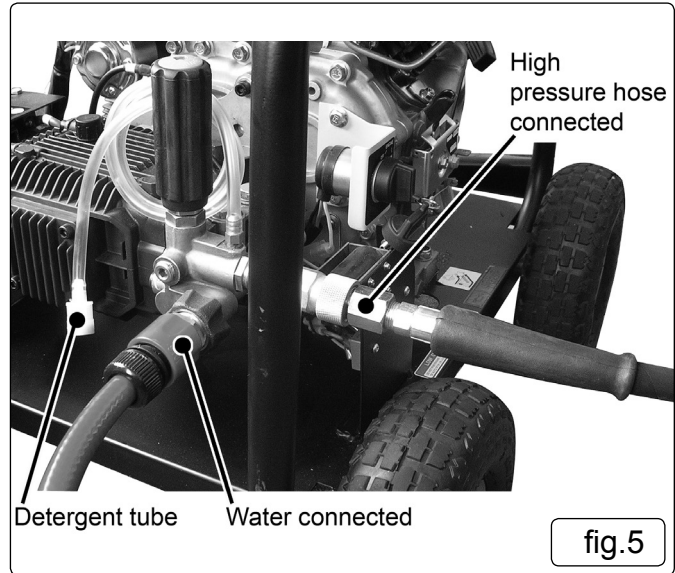

fig.5
- 4.1.8. Attach the other end of the high pressure hose to the pump outlet as shown in fig.5. Pull back the brass sleeve on the connection. Insert the hose and release the sleeve.
- 4.1.9. Connect the mains water supply hose to the pump inlet as shown in fig.5. **USE COLD WATER ONLY.**
- 4.2.2. On the top of the pump outlet is a brass siphon injection fitting. Push the detergent input pipe onto the fitting (fig.5) and place the filter on the other end into the container of detergent ensuring that it goes all the way to the bottom. When used with the low pressure black nozzle, detergent will be drawn from the container by siphonic action and will mix automatically with the water from the pump. Use Sealey General Purpose Detergent, AK130 (25ltr) or AK131 (5ltr). Sealey Traffic Film Remover is also available, AK132 (25ltr) or AK133 (5ltr).